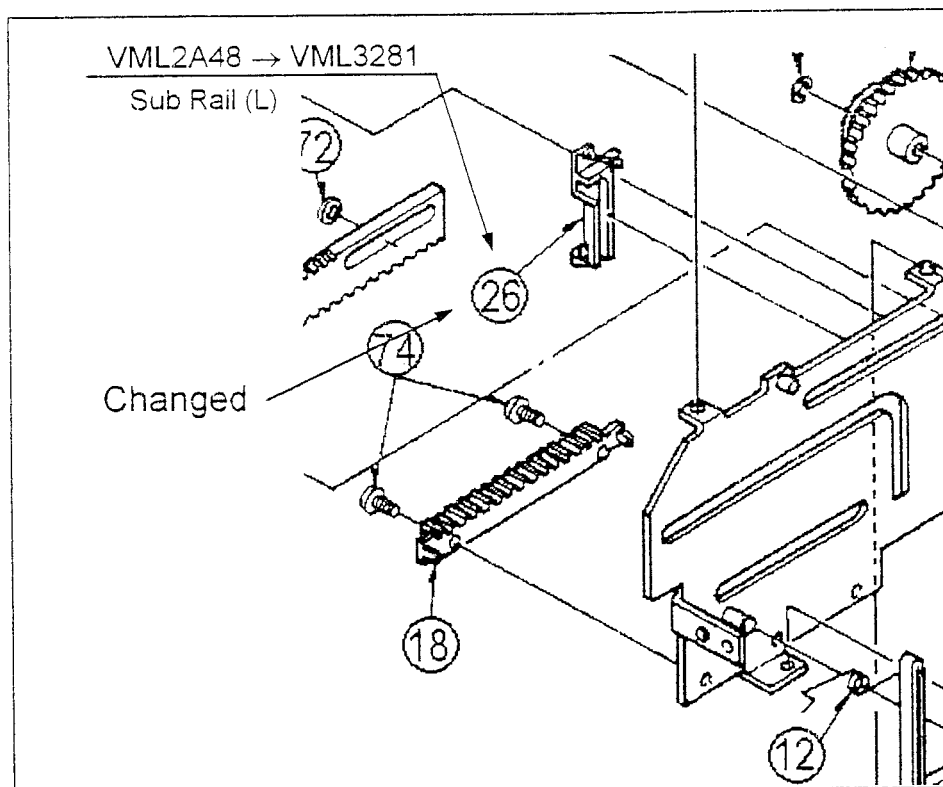

Fig. 2
- 2). Screws for Holder Flexible Unit are changed from VHD0678 to LMHD16061 as shown in figure 2.
- 3). Screws for Holder Flexible Unit are changed from XQN16+A25 to LMHD16061 as shown in figure 2.